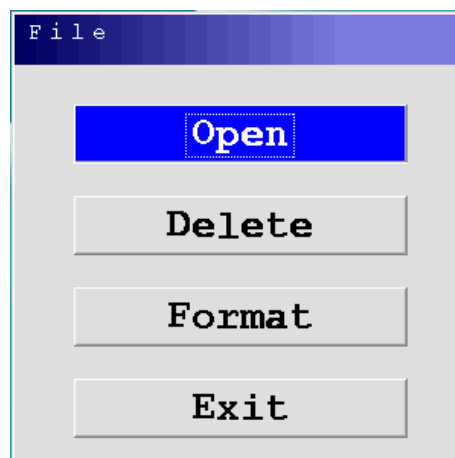

Fig. 5.8 The menu «File» of a GPR-detector
5. "File" - is caused the menu "File" (a Fig. 5.8) with which help it is possible: to open for viewing the kept file (button click to "Open" the list of the kept files opens, the chosen file opens for viewing). To remove not the necessary kept file (button click to "Remove" the list of the kept files opens, the chosen file will be removed). The option to "Format" is applied in case of failure in the GPR-detector program when it is not possible to open kept files, after formatting there is a removal of all kept files.